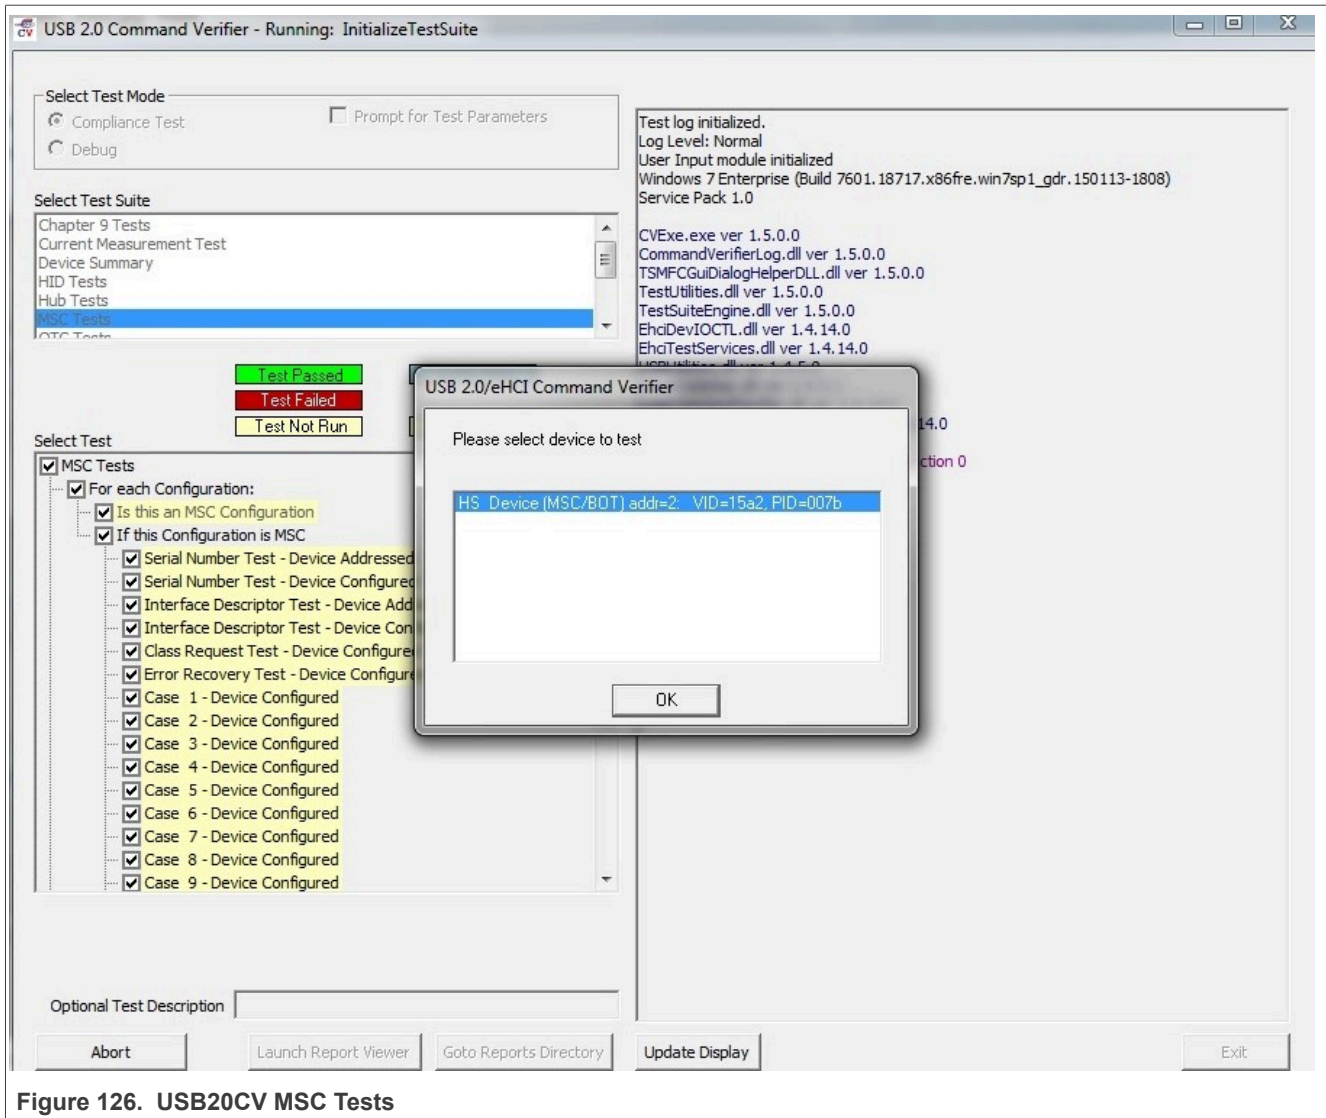

Figure 126. USB20CV MSC Tests
3. Select the DUT device in the list, click Ok as shown in Figure 126 below.